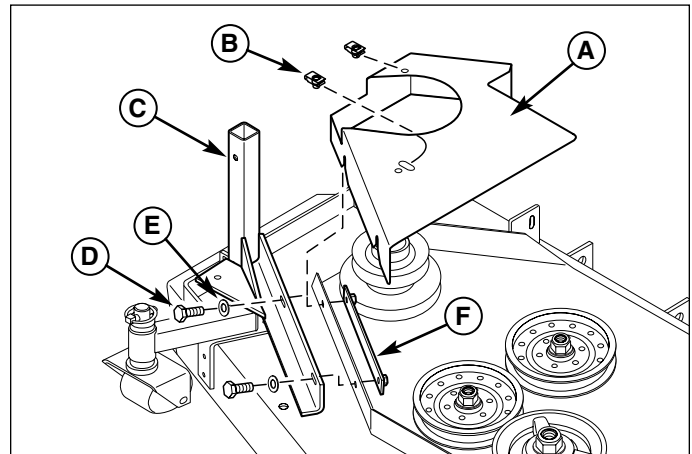

**Figure 14. Install Spindle Pulley**
1. Apply an anti-seize compound to the spindle shaft. Install the new, double spindle pulley (C, Figure 14) on the shaft with the smaller pulley facing up with the 5/8" nylon lock nut (A), 5/8" washer (B) and 1/4" key (D) and tighten to 85-95 ft./lbs. (115-128 N.m.). Use a block of wood to keep the blade from spinning while installing and tightening the 5/8" nut.